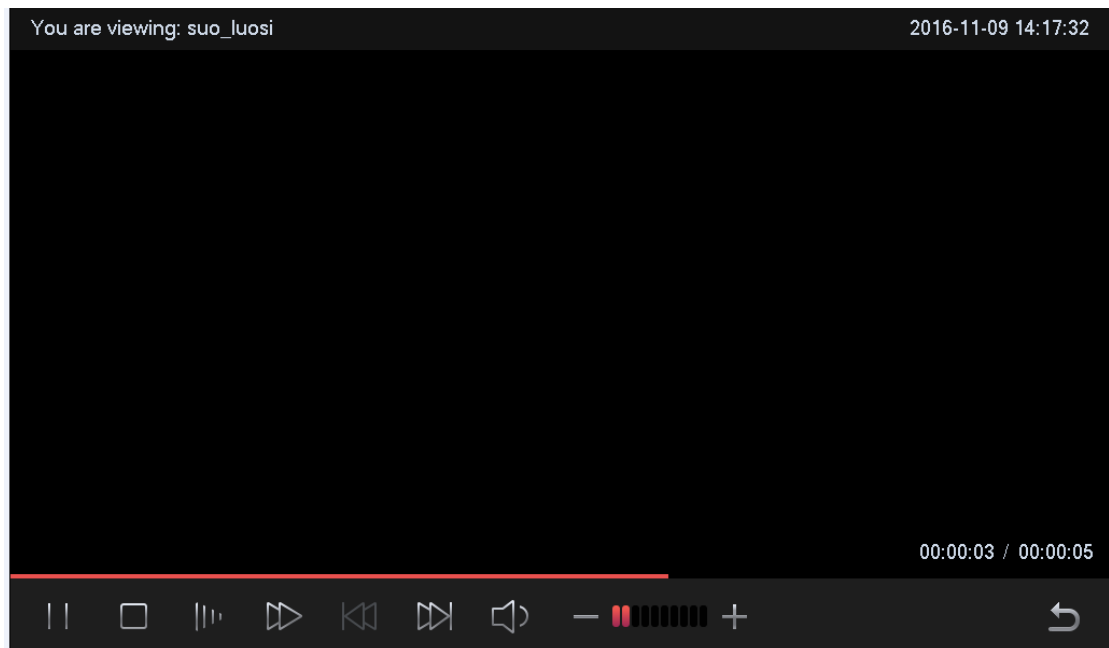

Figure 4-10
Step 2. Click  to select device record. See Figure 4-10.